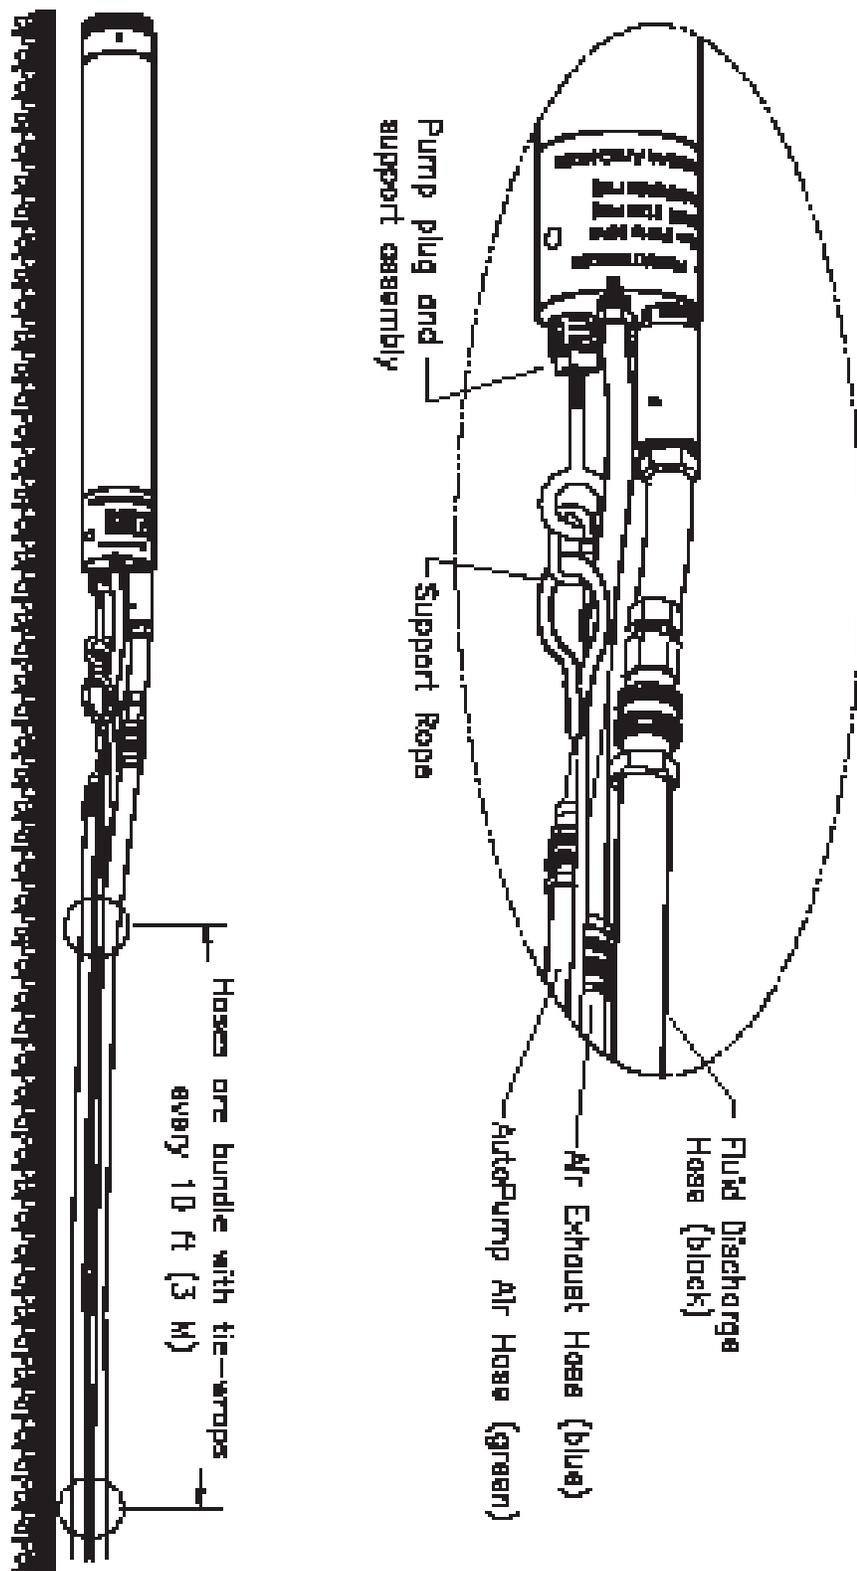

Figure 14 - Hose Bundling: Part 1 of 2
(See Figure 14 on page 34, and Figure 15 on page 35)
- STEP 3 -** Connect the quick-link assembly on the support rope to the eye on the AP-2 and lay the support rope out along with the hoses. Make sure that none of the hoses or support ropes are crossing over each other. **(See Figure 14)**
- STEP 4 -** Starting at the AutoPump end of the hose, put a tie-wrap through the center of the braided support rope just above the uppermost quick-connect or barb on the AutoPump. **(See Figure 14 and Figure 15)**
- STEP 5 -** Pulling the rope taut, put the tie-wrap around the fluid discharge hose with the rough surface outwards. Cross the ends and complete the figure-8 pattern by securing the ends around the exhaust hose. When you connect the tie-wrap make sure it is straight and is not kinking the hoses. **(See Figure 14 and Figure 15)**